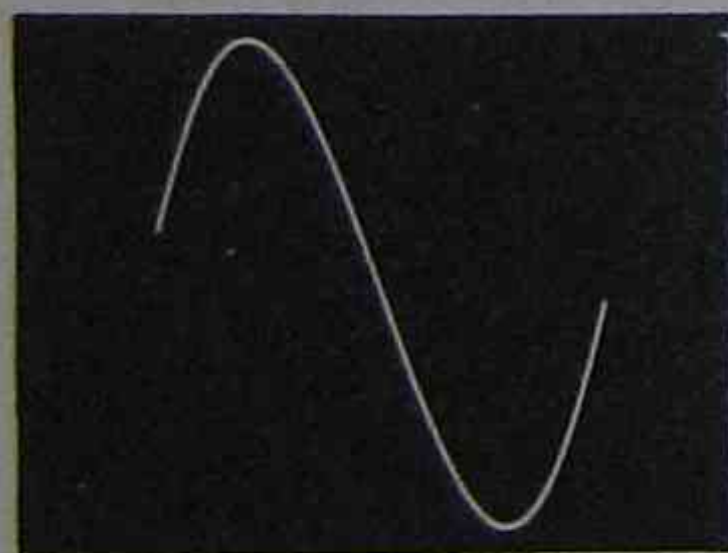

FIG. 16. RETRACE BLANKING.
5.6 RETRACE BLANKING. In practice the beam is generally cut off during the retrace time because the retrace tends to confuse the display. One method of retrace blanking is to drive the intensity grid in the electron gun sufficiently negative to cut off the electron beam for the duration of the retrace time. Fig. 16 shows how the trace is simplified by the use of retrace blanking. Generally, a blanking pulse controlled by the horizontal sweep generator is used for this purpose.